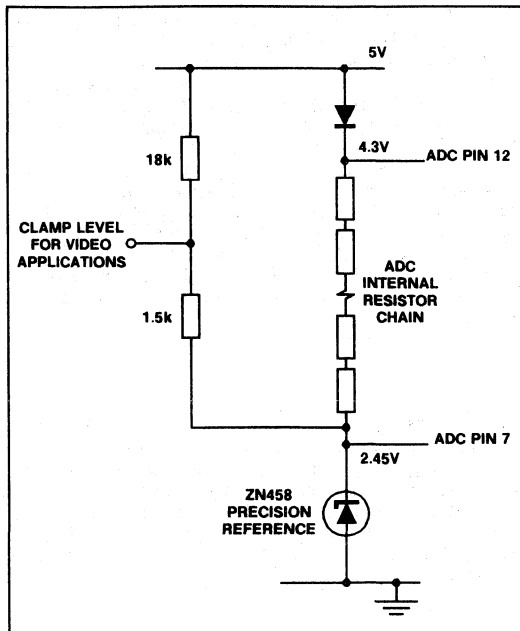

Fig.4 Simple reference voltage generation
**Voltage Reference Pins (Fig 4.)**
The maximum value of  $V_{RT}$  is  $V_{CC}-0.7$  volts since values above this figure will start to saturate the comparator, resulting in noticeable distortion. Optimum performance from a +5 Volt power supply is obtained with  $V_{RT} < +4.3V$  and  $V_{RB}$  a further 2 volts below  $V_{RT}$ . In addition the  $V_{RT}$ ,  $V_{RB}$  and  $V_{RM}$  pins should be decoupled to ground close to the device pins using good quality 10nf capacitors. A simple method for providing the reference voltages is shown in Fig. 4, and further information may be found in applications note AN72 (page 4-74). With a reference ladder voltage of less than 2V the reduced LSB size causes a larger differential linearity error. Operation of the device below 1.5V may therefore cause missing codes.